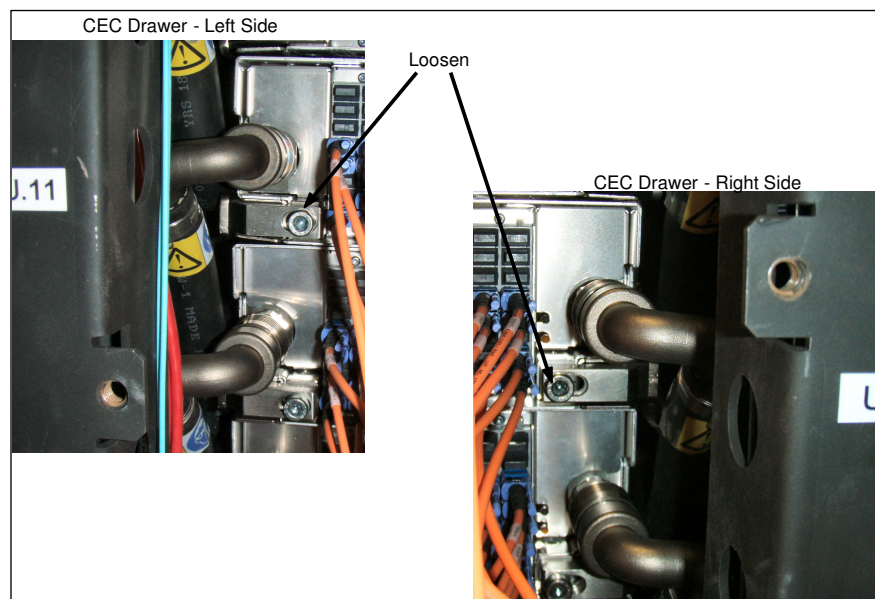

Figure 20 Rear CEC Rail mounting bracket
STEP 30 Loosen the rear CEC Rail mounting bracket captive screws using the tools listed below(see Figure 20):